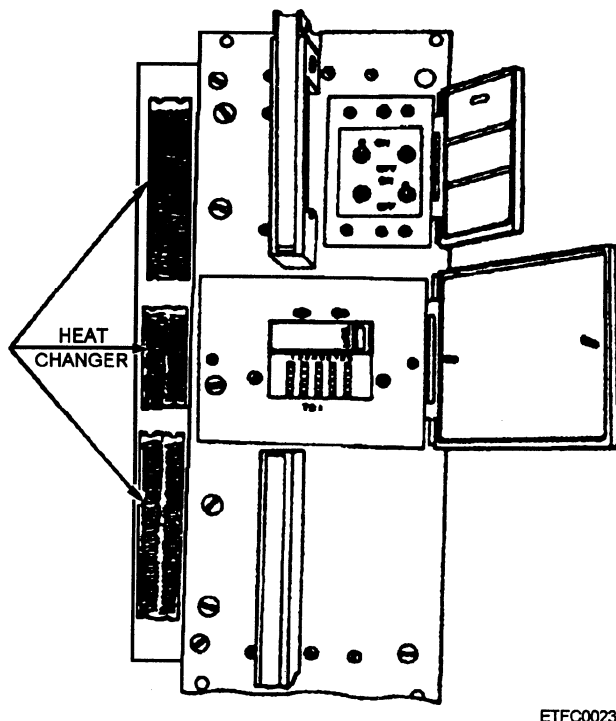

Figure 2-36.—Example of a heat exchanger used by a large computer mounted on the side of a module.
- Heat exchangers mounted on a module, the frame, or the-cabinet and air filters for blower units use air-to-air cooling. (Figure 2-36 is an example of a heat exchanger used on a large computer. Notice it is mounted on the side of a module.)